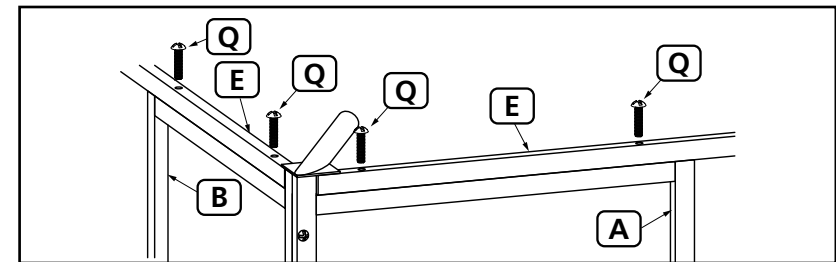

Fig. 2
Use Screws M6x30 mm (Q) to connect Cross Beam (E) to Left Panel (B) and Right Panel (A). See Fig. 2.